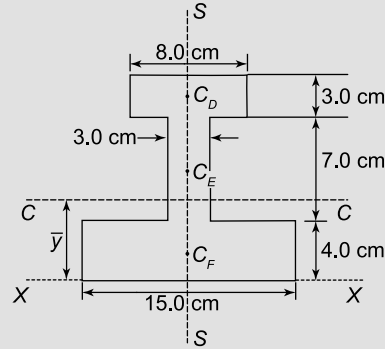

Figure 8.32
**Problem 19.** (a) Determine the second moment of area and the radius of gyration about axis  $XX$  for the I-section shown in Figure 8.32.
(b) The centroid of the  $I$ -section will lie on the axis of symmetry, shown as  $SS$  in Figure 8.32. Using a tabular approach: